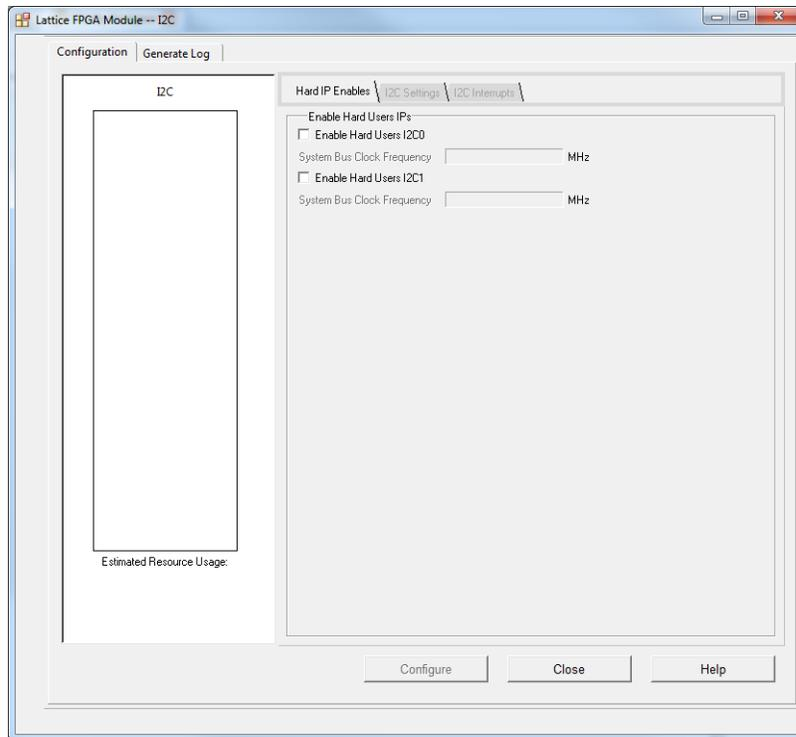

Figure 3.2. Enabling Hard I²C IP Blocks
2. Click **i2c**. The Lattice FPGA module – I2C window appears, as shown in Figure 3.2.